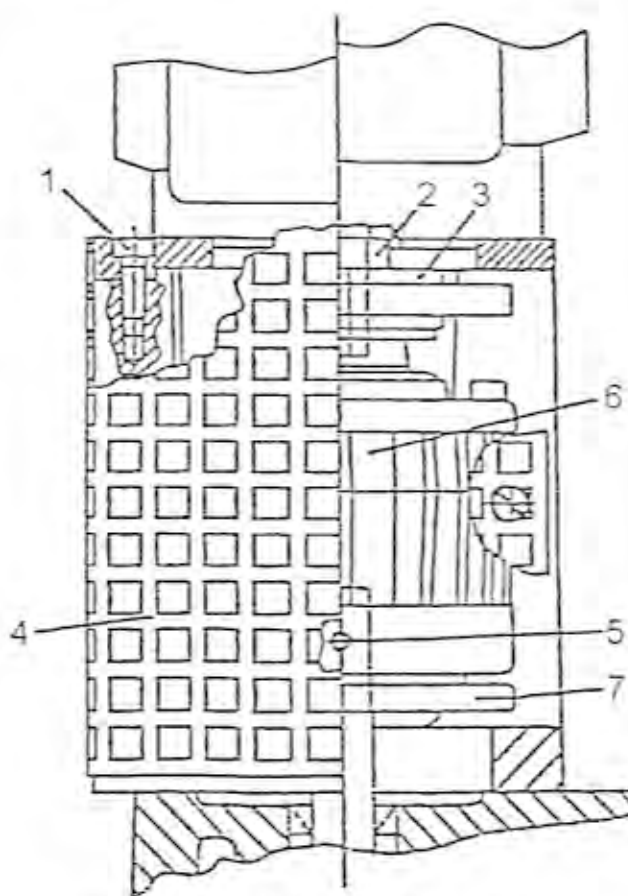

Figure 2: Permanent Magnetic Clutch
Should the direction of unwinding of the cable/ hose drum be incorrect (motor rotates upon switching on, but cable/ hose is unwound), the direction of rotation of the back stop unit mechanism (2) needs to be reversed. To do so, please follow the instructions below: (see Figure 2)
3. Remove screws (1) off the flange situated between motor and clutch housing.
4. Pull off plugs (2) with the mounted return stop mechanism from the motor shaft or clutch.
5. Dismantle back stop unit mechanism (3), complete with lever arm, from plug (2) with the aid of an extractor and push on again in opposite direction (reverse of direction of rotation).